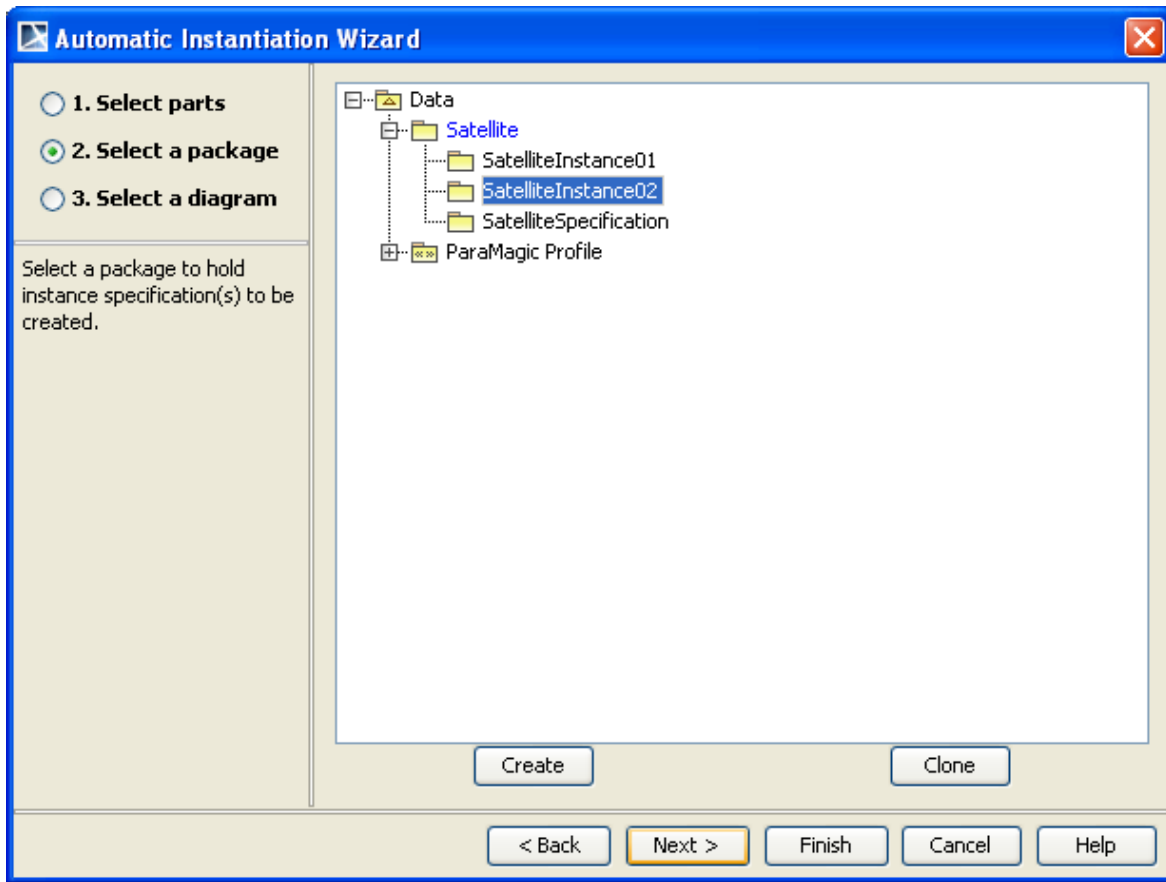

Figure 39 -- Automatic Instantiation Wizard - Step 2. Select a package
3. In **Step 2 (Select a package)**, create a new package named **SatelliteInstance02** (Figure 39) and click **Next**.